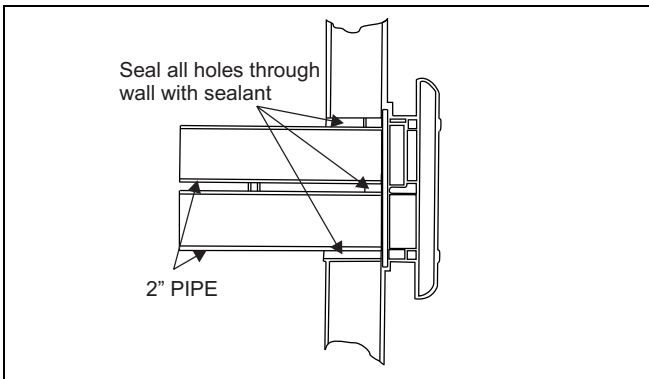

FIGURE 3
8. Seal all gaps between the pipes and the wall. See Figure 3.